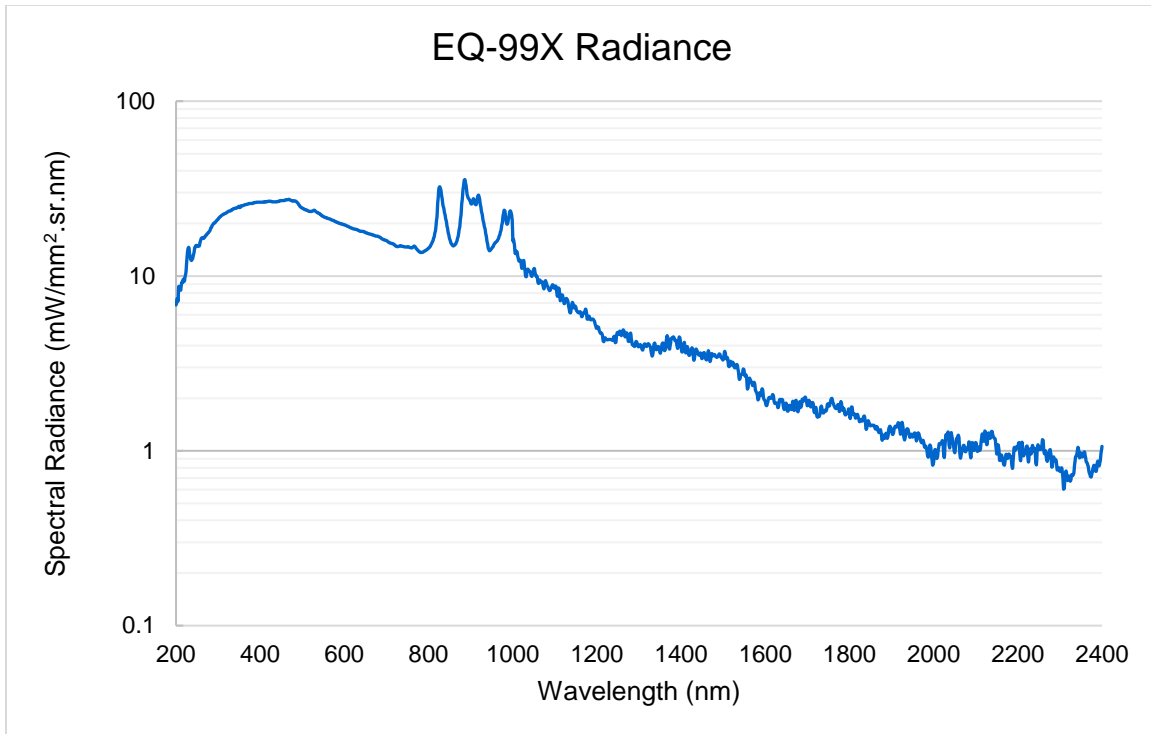

Figure 2: Typical Output Spectrum
- Typical output spectrum: see Figure 2.